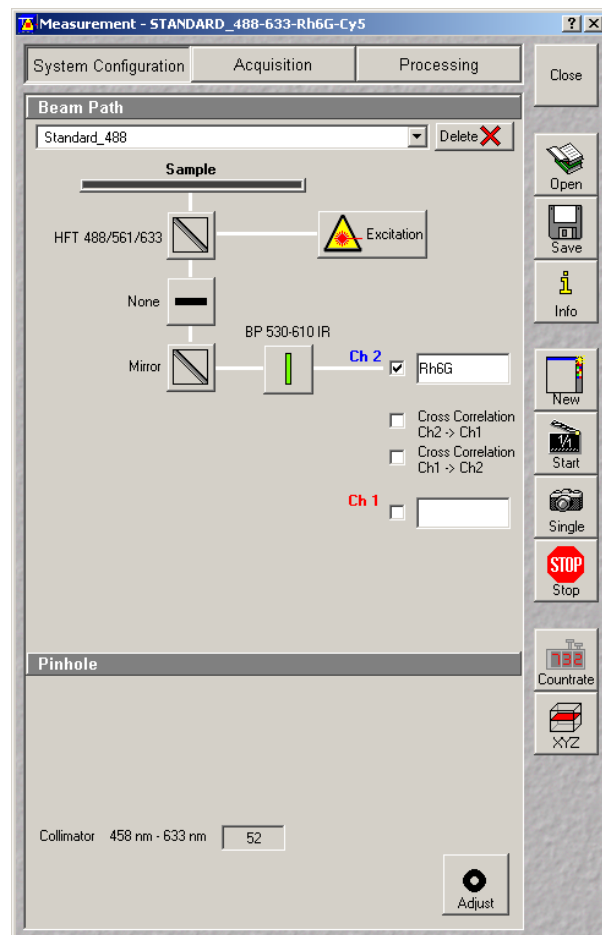

Fig. 4-22 Measurement window
- The **Measurement** window will appear (see Fig. 4-22).
- Click on the **System Configuration** button on top of the **Measurement** window (Fig. 4-22).